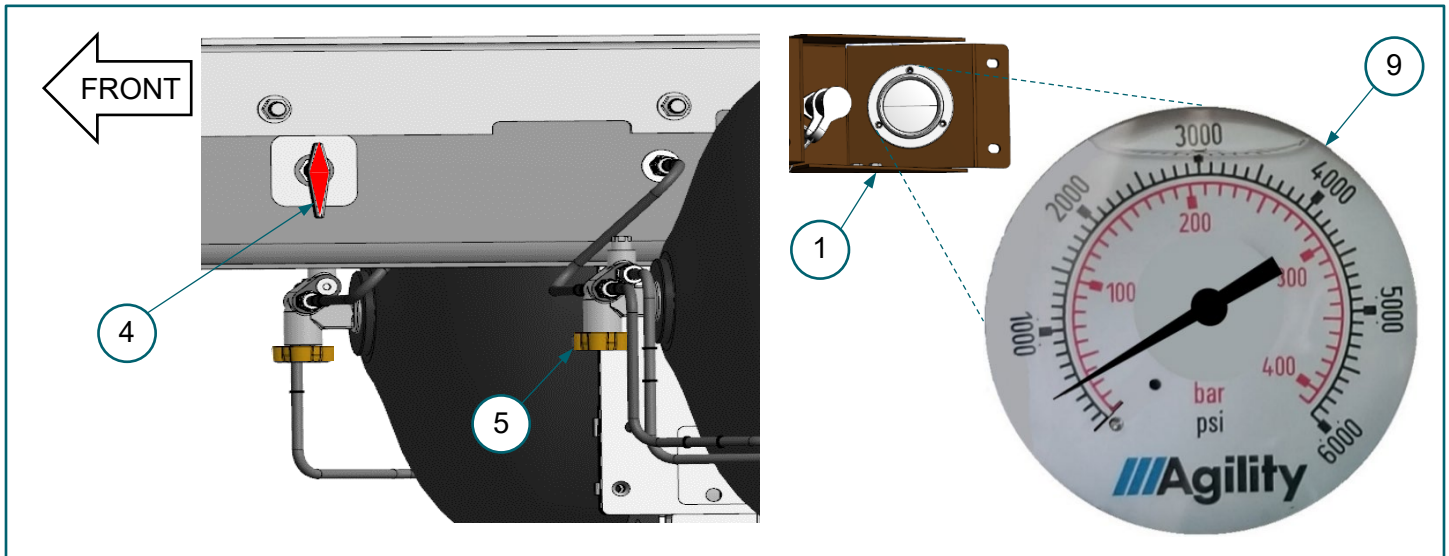

FIGURE 4-1. Fuel fill panel, (9) HP gauge reading 500 psi, (4) 1/4-turn manual shutoff valve, (5) DS cylinder manual valve
1. With an assistant, open DS cylinder manual valve while observing HP gauge on fuel fill panel until it reads 500 psi (3.45 MPa) and close the manual cylinder valve. **FIGURE 4-1**
2. Open 1/4-turn manual shutoff valve. **FIGURE 4-1**